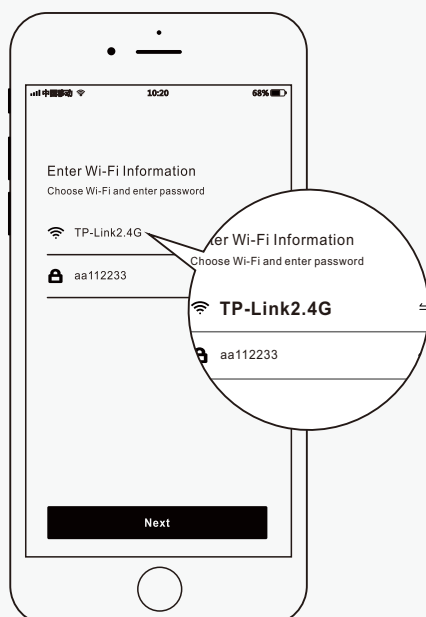

Figure 3
Step 3. When Figure 3 appears, please select the 2.4G wireless network and enter the correct password and click Next.